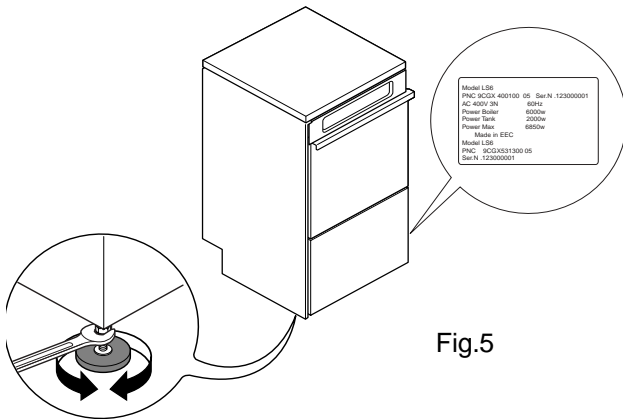

Fig.5
The rating plate contains identification and technical data and is located on the right-hand side panel of the appliance (Fig. 5).
- Position the dishwasher and level the appliance by turning the relative height-adjustable feet (Fig. 5).